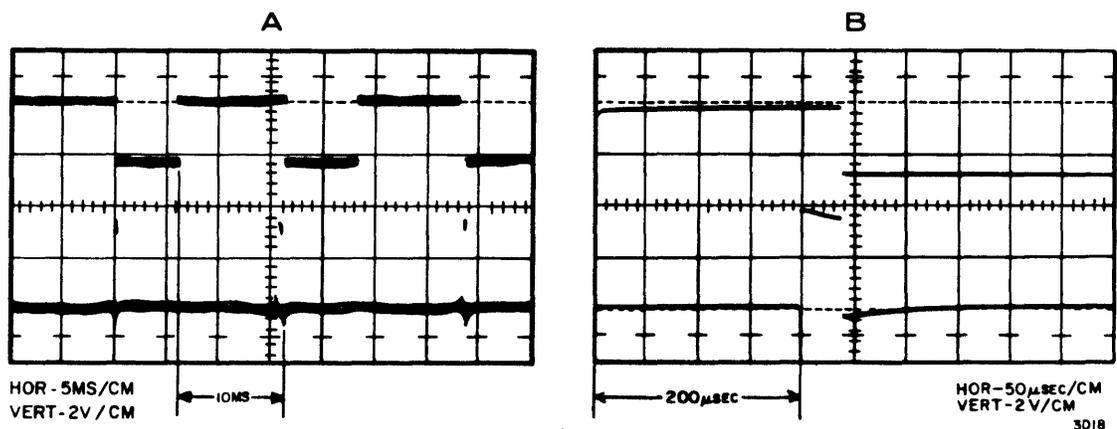

Figure 6-25. Selected Drive Ready Delay Timing
- d. Make oscilloscope settings and trace comparisons according to Figure 6-25, part A. Adjust the potentiometer shaft on Y203 until its output pulse is delayed by 10 ms with respect to the "0" output of I220.
- g. Make oscilloscope settings and trace comparisons according to Figure 6-25, part B. Adjust the potentiometer shaft on Y221 until its output pulse is delayed by 200 usec with respect to the "0" output of Y203.